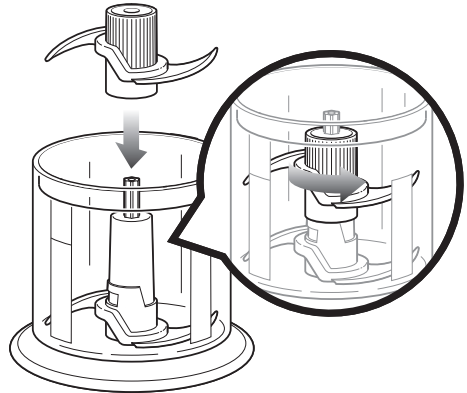

Fig. 2
- Use the Ninja 4-Blade Assembly in the 40 oz. Pitcher. (fig. 2)
- 3 Carefully insert the Upper Chopping Blade Assembly over the Lower Chopping Blade Assembly rotating it until it locks onto the Lower Chopping Blade Assembly. (fig. 2)